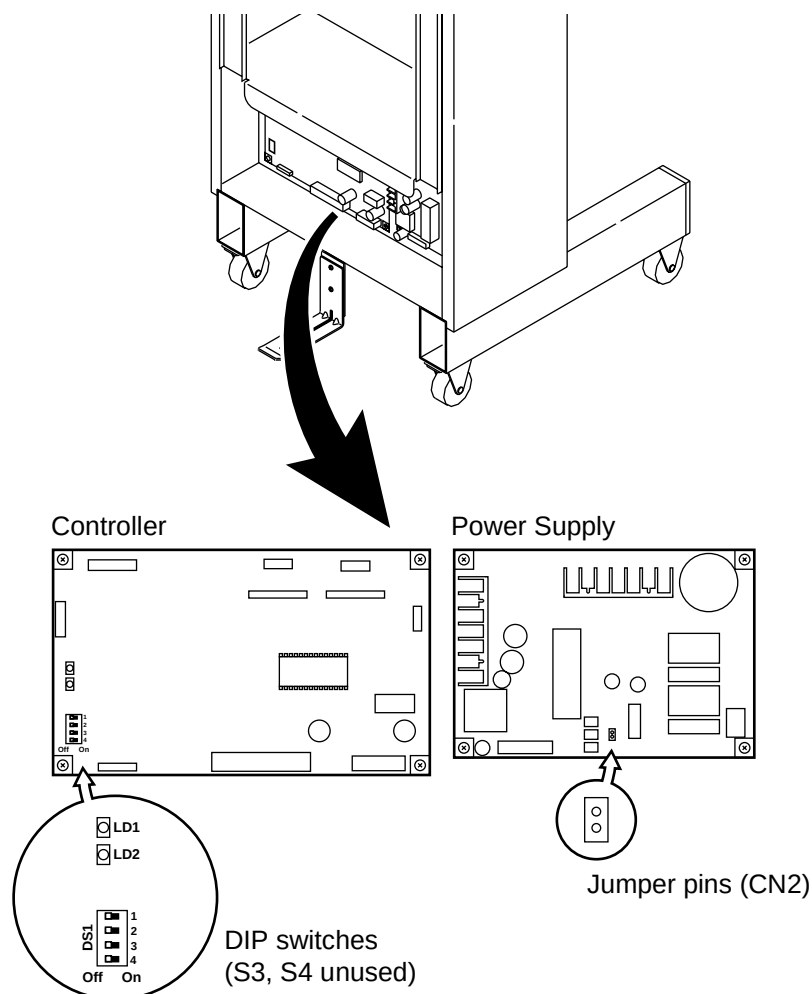

Figure B-2 Location of DIP Switches and Jumper Pins
- Step 5** Locate the controller and power supply (See Figure B-2).
- Step 6** Place a jumper between the two pins marked CN2 near the bottom of the power supply. (See Figure B-2.)